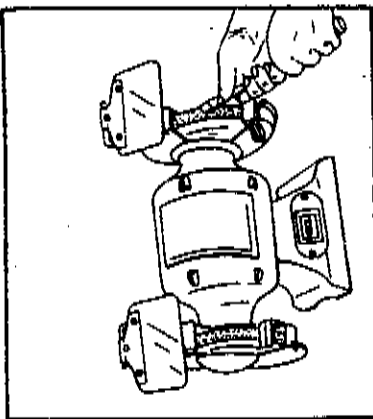

Fig. 7
4. When it is necessary to reshape the grinding wheel, use the proper tools as shown in Figures 7 and 8. After reshaping, adjust the tool rests and spark breakers as needed to maintain the 1/16-inch clearance from the wheel.